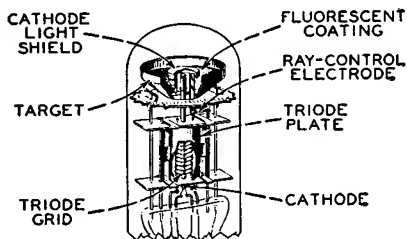

Fig. 55
contain two main parts: (1) a triode which operates as a dc amplifier and (2) an electron-ray indicator which is located in the bulb as shown in Fig. 55. The target is operated at a positive voltage and, therefore, attracts electrons from the cathode. When the electrons strike the target they produce a glow on the fluorescent coating of the target. Under these conditions, the target appears as a ring of light.